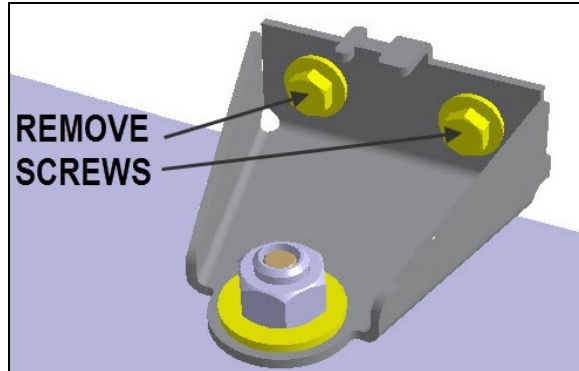

Fig.10
6. Remove the bracket from the vehicle by unscrewing the two (2) M8 hex bolts (13mm or 1/2" head) securing it to the frame (Fig.10).